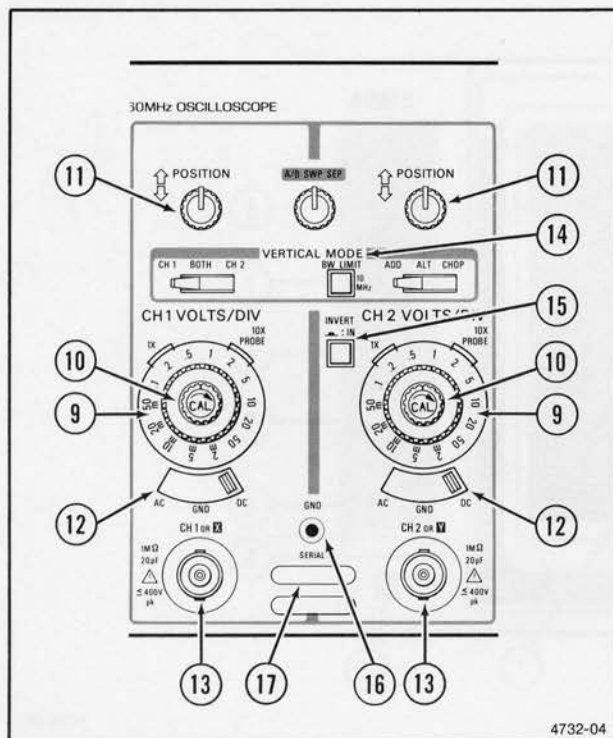

Figure 2-4. Vertical controls and connectors.
Refer to Figure 2-4 for location of items 9 through 17.